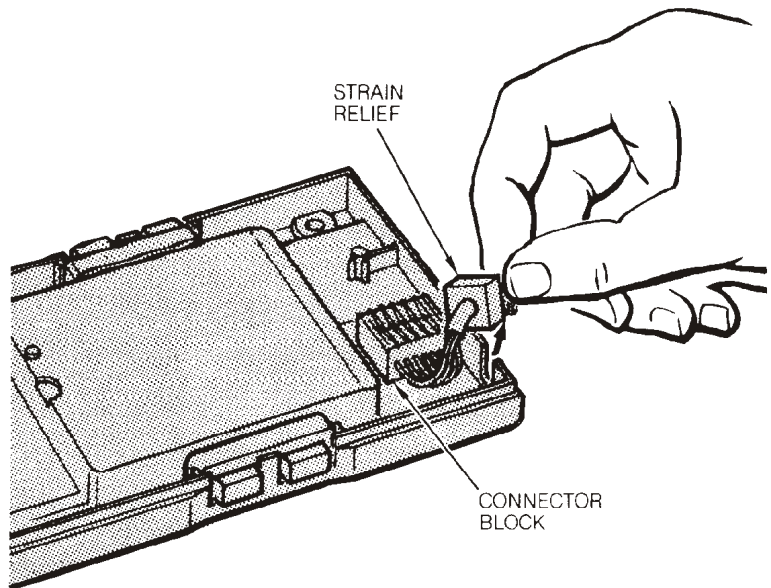

Figure 10
(6) Remove the cable from the lower housing by lifting the cable strain relief up and out of the housing. Pry up the cable connector block from its mount in the housing. **CAUTION:** Be careful not to touch or bend the metal prongs. (See Figures 10 and 11.)
(7) If bottom housing has a raised lip around the directional disc guidepost, replace the bottom housing.
(1) Place the replacement cable assembly in the lower housing as shown in Figures 10 and 11.